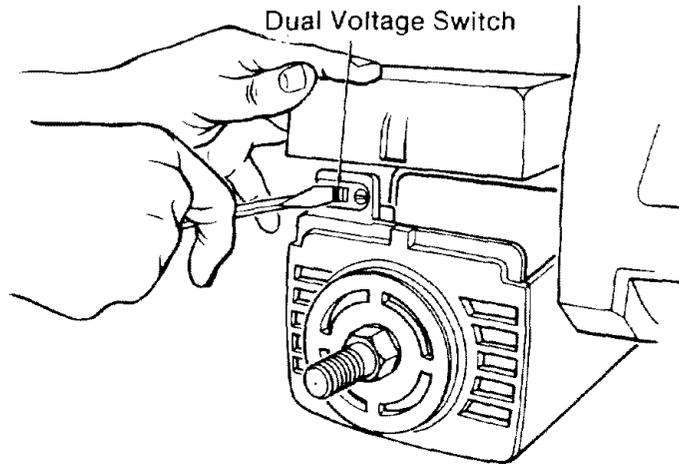

Fig. 135 - Dual Voltage Switch
2. Using a small screwdriver, slide *dual voltage switch* to 240V position. Then replace *motor cover panel*. (Figure 135)